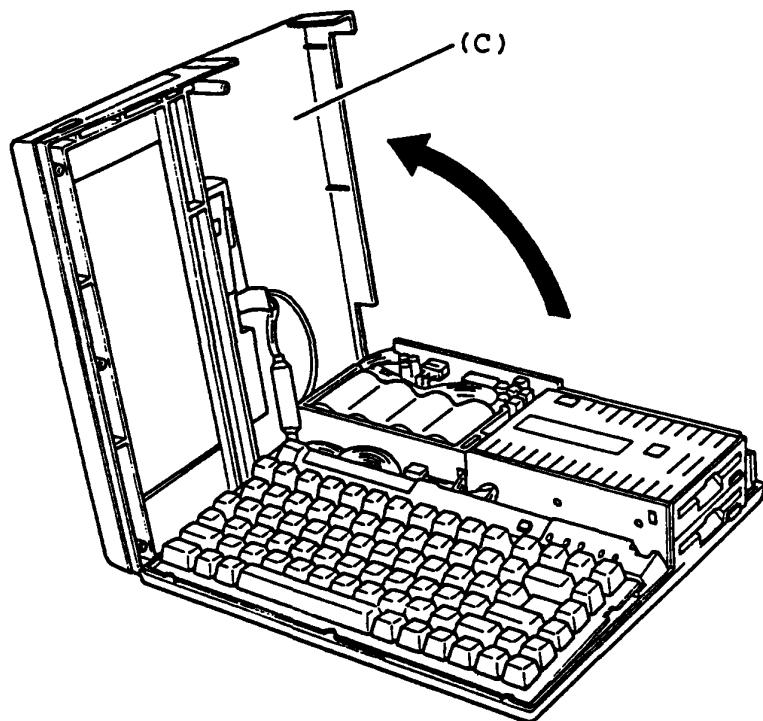

Figure 5-3 Disassemble the Upper Cover
- 4.** Stand the Upper Cover (C) to left side of the System Unit as shown in the figure 5-3.